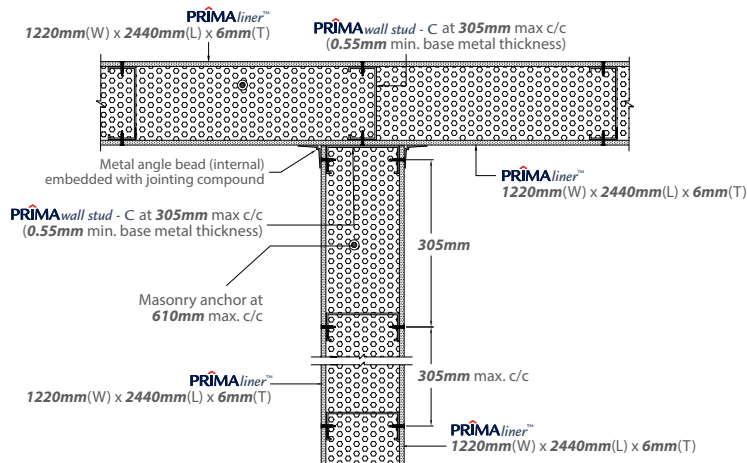

Figure 11: Solid infill wall to solid infill wall intersection
- d. Refer to Figure 11 for solid infill wall to solid infill wall intersection at the center.